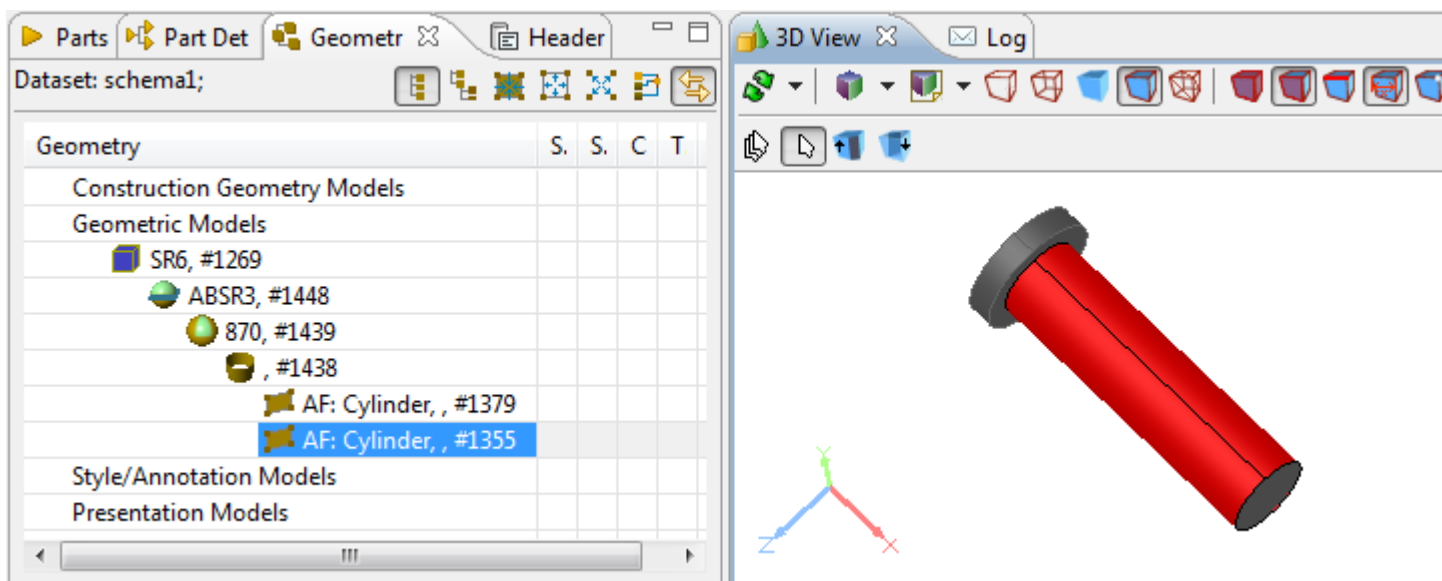

Figure 5. Two surfaces are selected in 3D View, the last selected surface is highlighted in Geometry details view tree
- Select the second face on the 3D geometry object in the **3D View** by holding **Ctrl** key and clicking on the surface (see Figure 5).